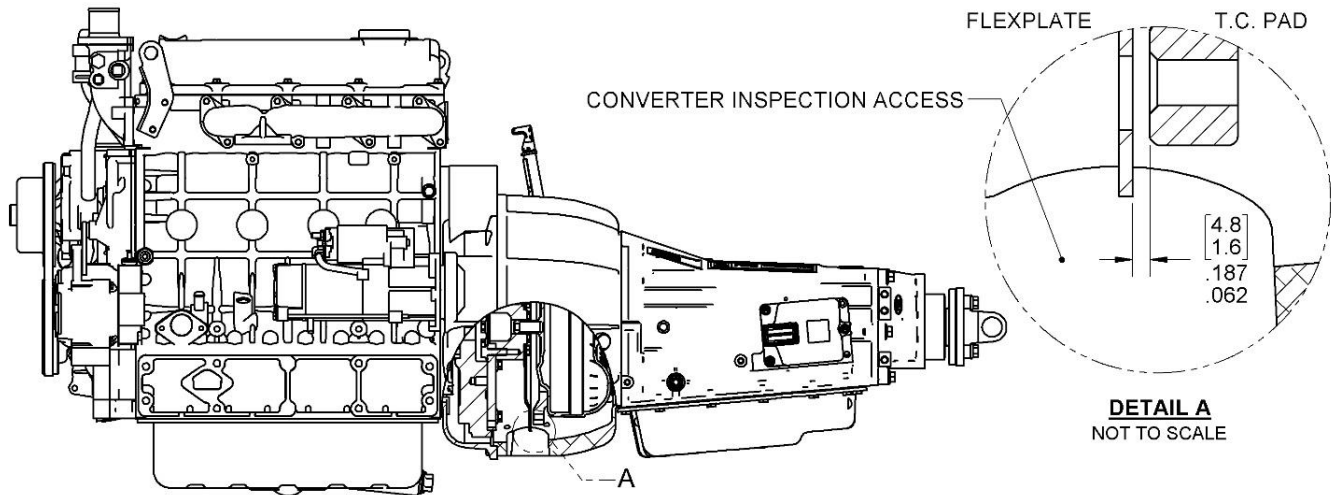

Figure 3
**STEP 12:** Apply grease to the torque converter pilot and slide the transmission assembly onto the alignment dowels found on the engine block, as well as the four torque-converter-studs into the proper slots in the flexplate. Start and tighten the upper six mounting bolts by hand, checking that the two faces mount flush. Before tightening the bolts to the engine manufacturer's torque specification, it is critical to verify that the torque converter spins freely and can be pushed back into the transmission to provide a gap between the converter-pads and the flexplate between 0.06" - 0.187". **Reference Figure 3.** This gap is critical to prevent a transmission-pump failure. If this torque-converter-pullout is too great, remove one (or two) of the bellhousing-spacers as necessary. If this torque-converter-pullout is too tight with the two bellhousing-spacers, do not proceed with the install and call PCS with the number found at the top of your 4LHD Quick Reference Guide. PCS will not be responsible for improperly installed torque converters. Once the proper gap has been established tighten the six bellhousing-bolts to the engine manufacturer's torque specification. Double check the torque converter pullout before tightening the four flexplate-nuts to the engine manufacturer's torque specification. Re-install the dust cover from the old transmission.